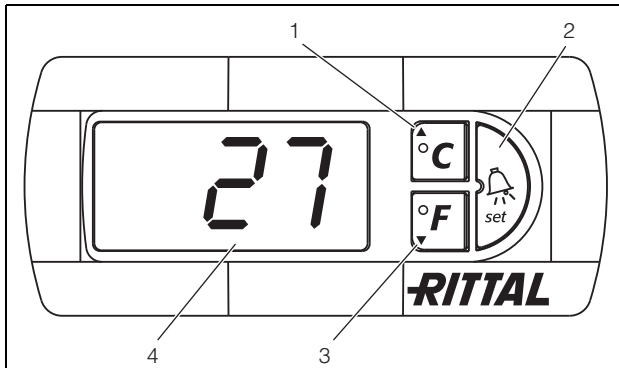

Fig. 8: Comfort controller
The Comfort controller has a 7-segment display (Fig. 8, no. 4). After switching on the power supply, the current software version is initially displayed for approximately 2 seconds, followed by a preset option (e.g. t10) or the temperature. In regular operation, the display shows both the temperature (in degrees Celsius or Fahrenheit – users may switch between the two) and any error messages. The current security safe internal temperature is usually displayed permanently. In the event of an error message, this will alternate with the temperature display. The unit is programmed using buttons 1 – 3 (Fig. 8). The relevant parameters also appear in the display.
- Simultaneously press buttons 1 and 2 (Fig. 8) for at least 5 seconds.
Using buttons 1, 2 and 3 (Fig. 8) you can change 24 parameters within the preset ranges (min. value – max. value).